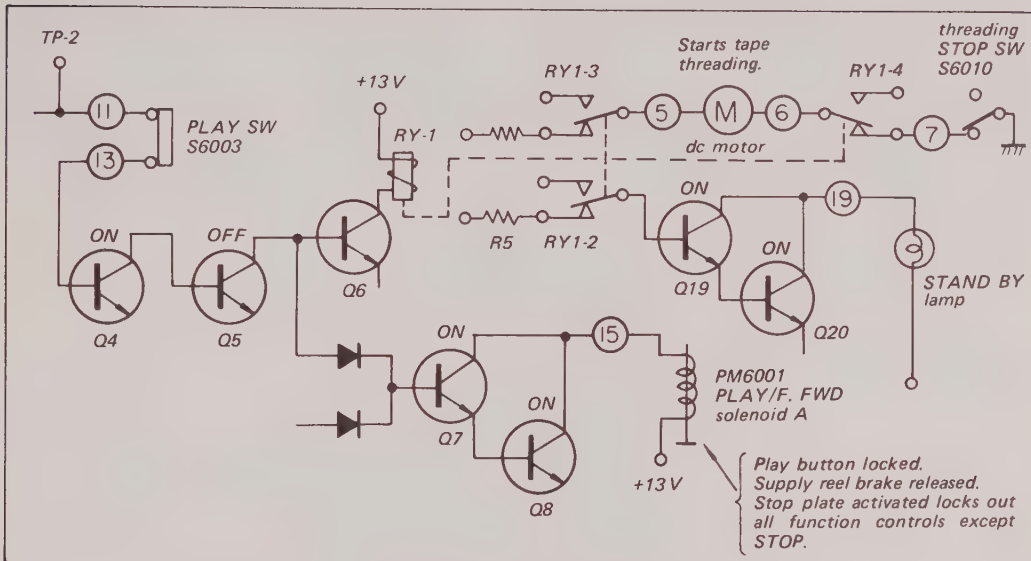

Fig. 3-7. Start tape threading
The VIDEOCASSETTE is also locked in place. The three distinct sequences to put the machine into the play mode are shown in Figs. 3-7 through 3-9. Sub-Function 1 – STOP INTERLOCK
1. RY1 energized; see PLAY 1 (Fig. 3-7)